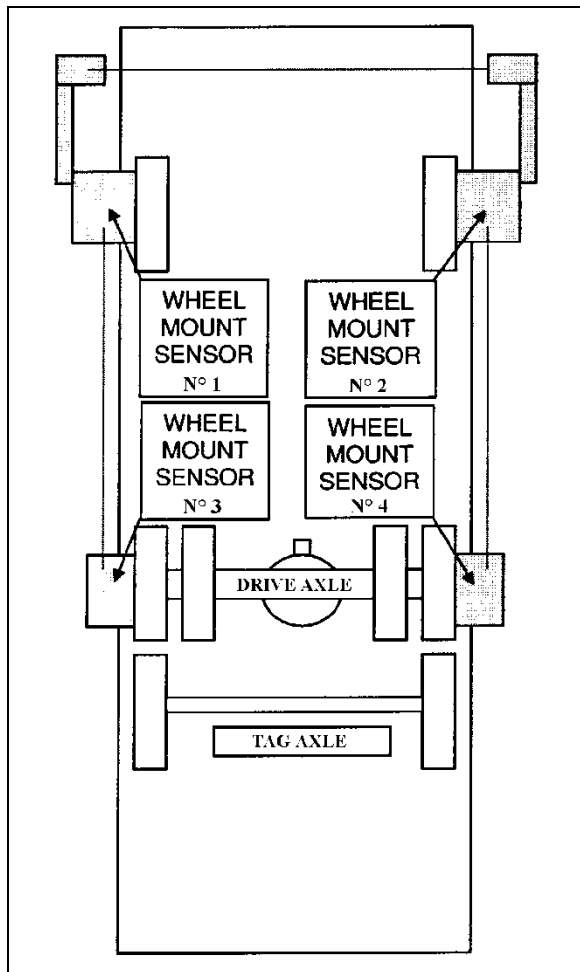

FIGURE 5: FRONT & DRIVE AXLE ALIGNMENT 11025
3. Install wheel mount sensors on front end and drive axle wheels (Figure 5).